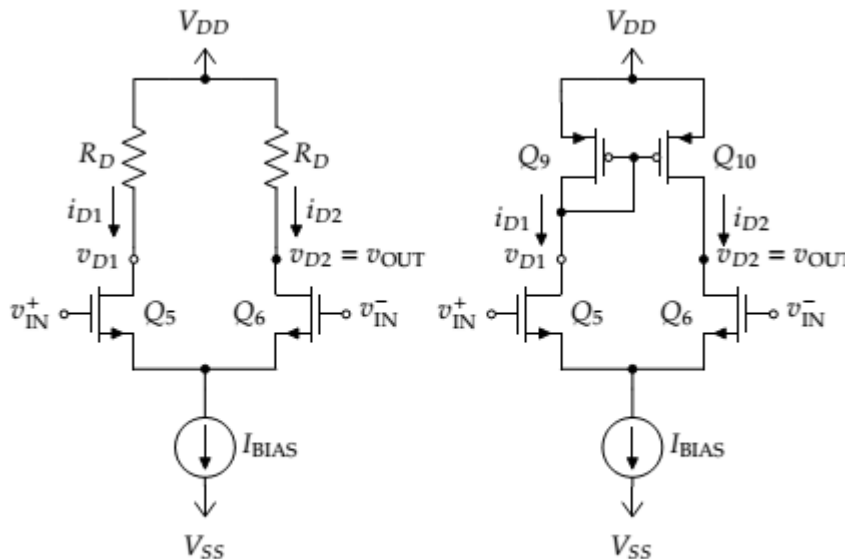

Figure 5.6: Comparison of resistive and active loads.
1. Remove both R_D resistors from the differential amplifier and replace them with the PMOS active load wired as shown in figure 5.6. Use the two PMOS transistors in the ALD1105.